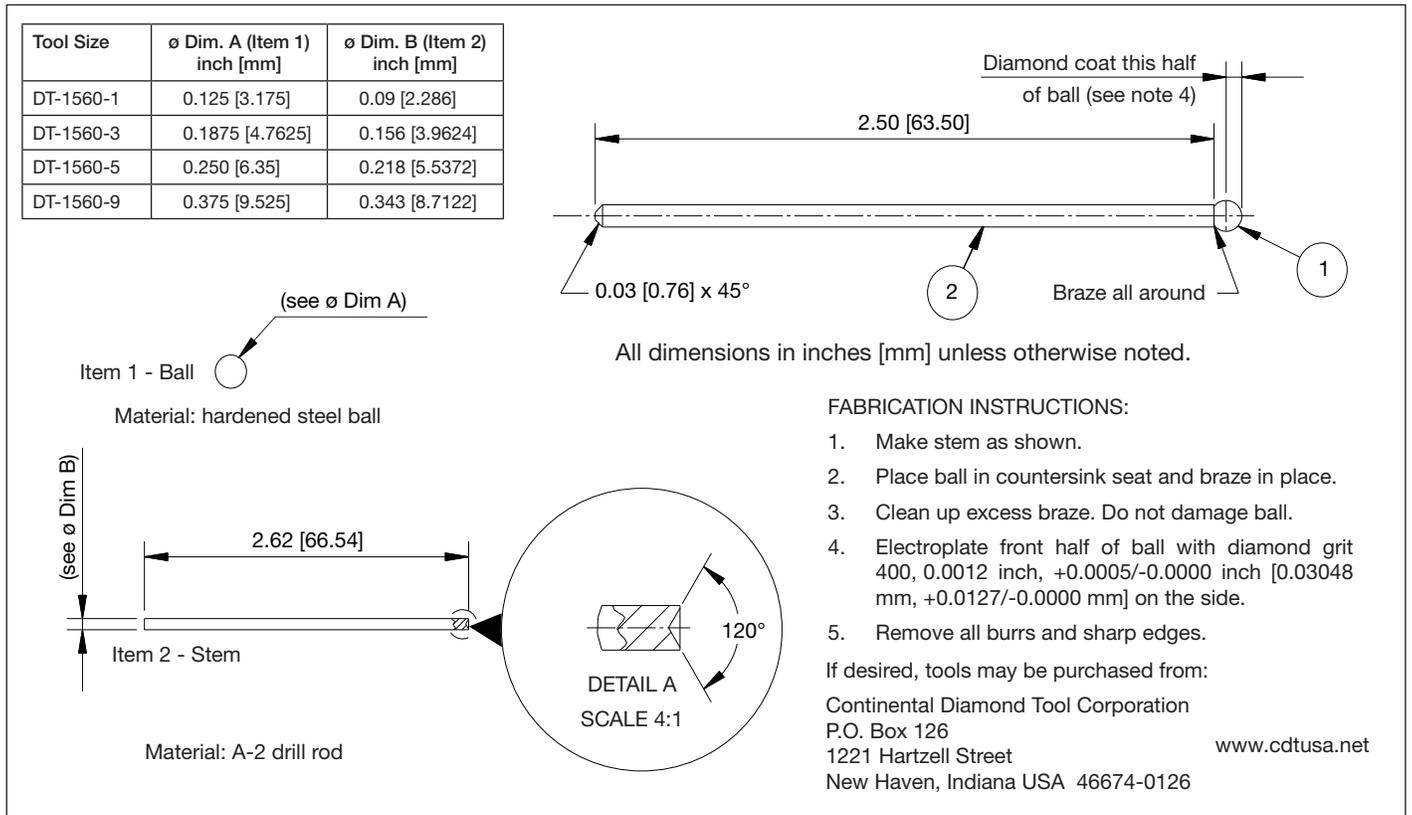

Figure 9, Fabrication Details - Diamond Hone Tools
If the **old** pump base is being re-used, re-coining of ball seats is not necessary. Instead, clean-up each seat using the correct diamond hone tool. See Figure 9 for diamond hone tool sizes and fabrication details.
These tools can be purchased from Continental Diamond Tool Corporation or may be fabricated by a qualified source, Refer to Figure 9 for additional information.
d. Leakage at release valve check ball (item 26).	Replace check ball (item 26) and use diamond hone tool DT-1560-5 to clean-up seat. See Figure 9 for tool fabrication details.
b. Oil filter screen clogged with debris.	Flush pump. Replace filter assembly (item 14). Drain old oil from reservoir and refill with Enerpac oil.
c. Damaged sealing components on the pump plunger assembly.	Inspect and replace sealing components (items 17, 18, 21, 23 and 25) as required.
d. Leakage at small inlet check ball (item 66).	Inspect spring (item 65), check ball (item 66) and valve seat (item 6) for obvious wear corrosion or damage. Replace check ball (item 66) and use diamond hone tool DT-1560-3 to clean-up seat. See Figure 9 for tool fabrication details.
e. Leakage at large inlet check ball (item 8).	Inspect spring (item 7), check ball (item 8) and ball seat on valve disc (item 12) for obvious wear, corrosion or damage. Replace check ball (item 8) and use diamond hone tool DT-1560-9 to clean-up seat. See Figure 9 for tool fabrication details.
f. Gasket (item 64) leaking.	Inspect gasket (item 64). Replace if worn or damaged.
g. Bypass valve (item 63) damaged.	Replace bypass valve (item 63). Important: Bypass valve on HPN and HPT series pumps is factory set. DO NOT attempt to readjust.
h. Safety relief valve (item 60) damaged.	Replace safety relief valve (item 60). Important: Safety relief valve on HPN and HPT series pumps is factory set. DO NOT attempt to readjust.
d. Oil filter screen clogged with debris.	Flush pump. Replace filter assembly (item 14). Drain old oil from reservoir and refill with Enerpac oil.